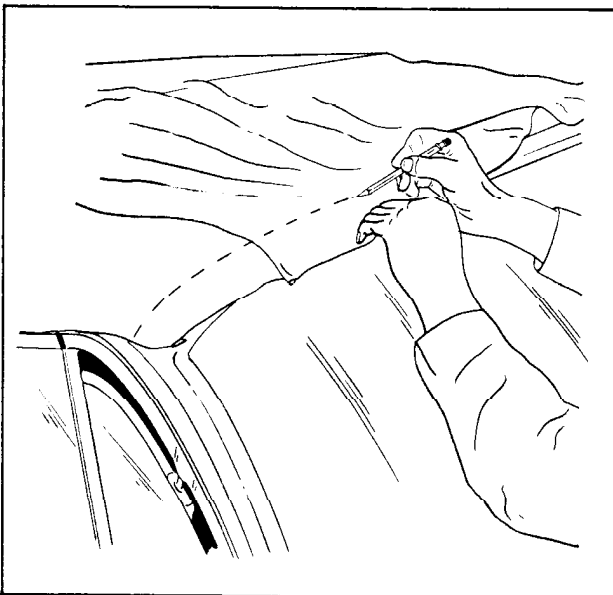

Fig. 15-106 Marking Top at Front Roof Rail
49. At front roof rail, pull top trim material forward to desired tension. While maintaining tension on top trim, place a pencil mark on outer surface of trim material along forward edge of front roof rail. (Fig. 15-106)